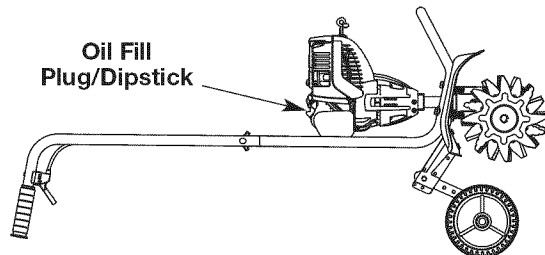

Fig. 6
2. Place the unit on a flat level surface with the mini tiller in a horizontal position (Fig. 6).